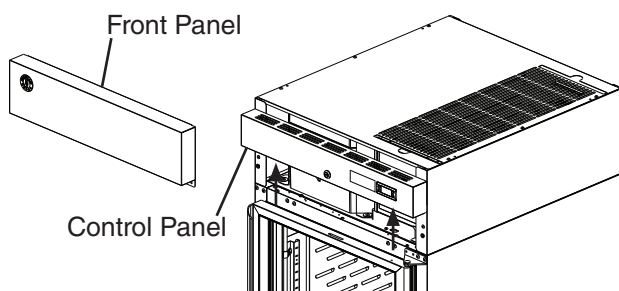

Fig. 26
- 2) Remove the front panel, then being careful not to pull the wires on the control module and door switch(es), remove the control panel. Secure the control panel so that it does not interfere with the hinge bracket and will not fall. See Fig. 26.